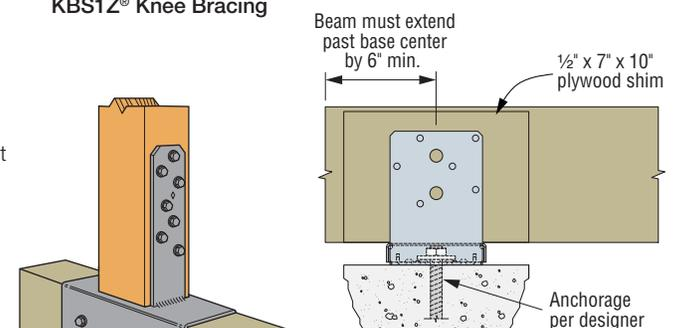

Figure 4 — ABU with Beam Installation
- For applications involving the use of a post base to support a wood beam, refer to p. 76. (Figure 4)